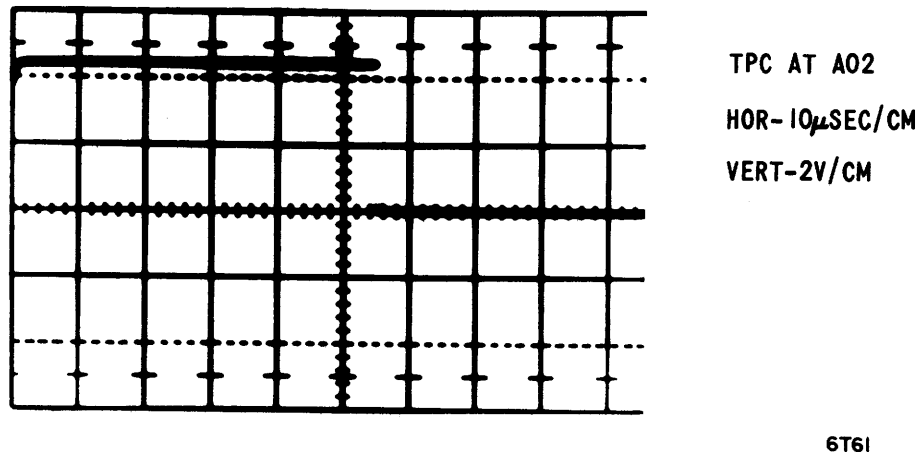

Figure 6-16. Detector Trace
19. Trace must indicate a logic "1" (+3 vdc) pulse with a width of $55.0 \pm 8.25 \mu\text{sec}$ (Figure 6-16). If requirement is not met, a failure has occurred in term Y601.